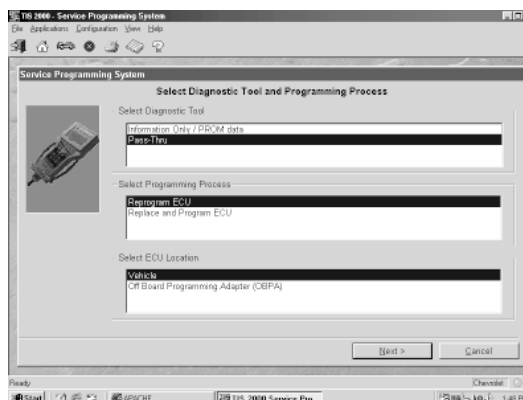

Figure I-17, Select Diagnostic Tool and Programming Process screen
3. The Select Diagnostic Tool and Programming Process screen appears.(Figure I-17)